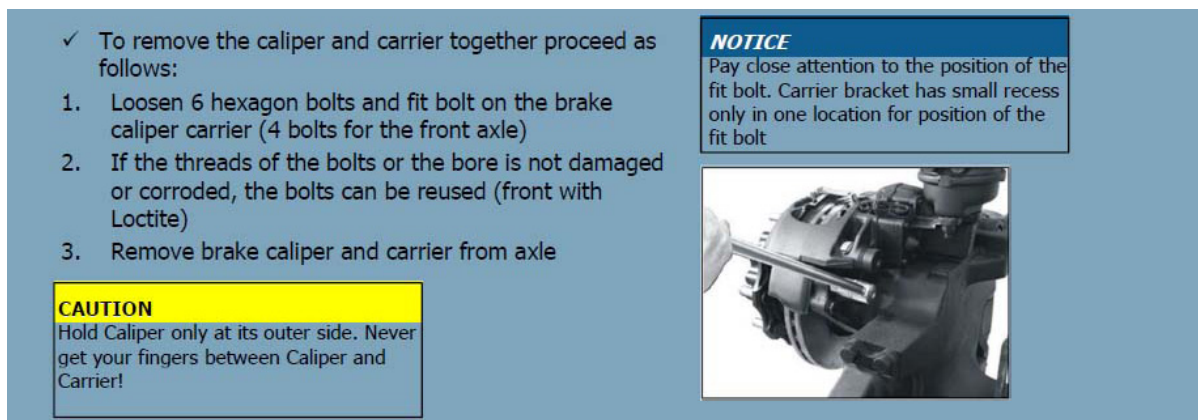

Figure 11 - Remove the 6 Carrier Bolts
1.12. Remove the 6 carrier bolts at the center or drive axle (see Figure 11).